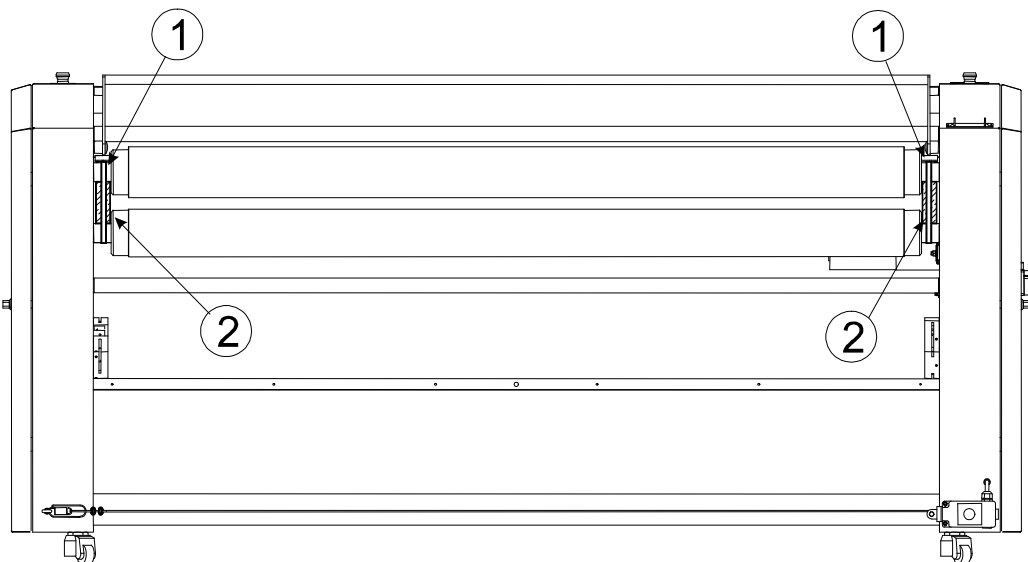

Figure 2
- 3 Remove the wooden blocks (3) from beneath the outer edges of the cabinets which the transport bolts pass through.
- 7 Cut through the straps (1) holding the rollers in position (see Figure 2).